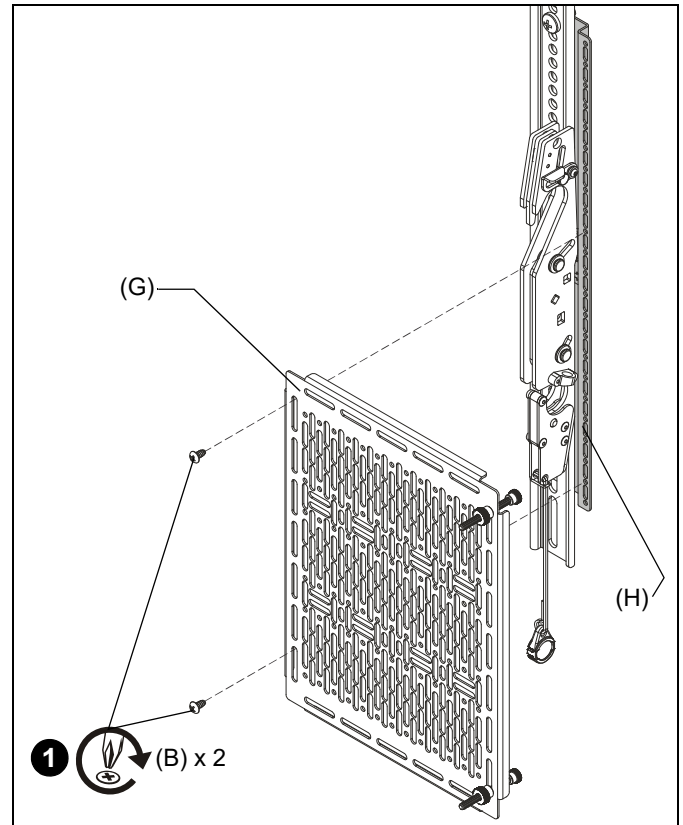

Figure 6
1. Using two 10-32 x 3/8" thread forming screws (B) fasten mounting bracket (H) to mounting plate (G). (See Figure 6)